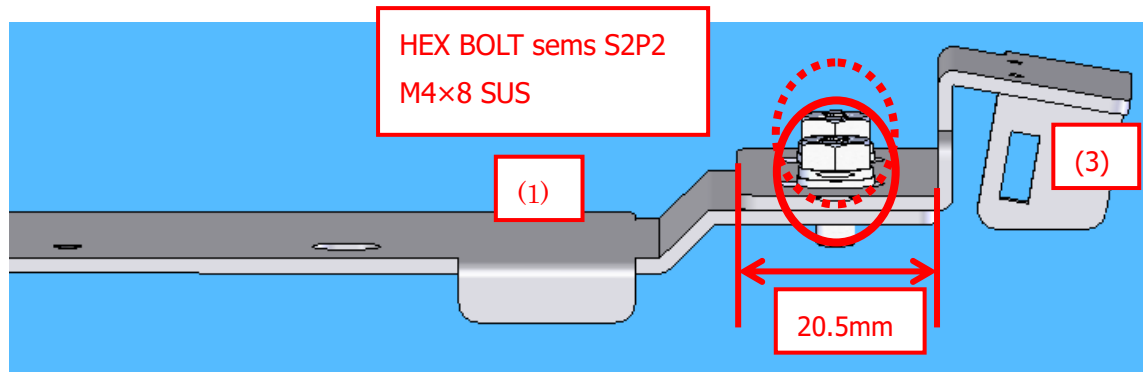

Fig. 7 Attach (3) to (1)
1. Attach (3) to (1) so that the distance between the arrows would be 20.5mm. This position is the same as that of the bracket before replacement (Fig. 7).